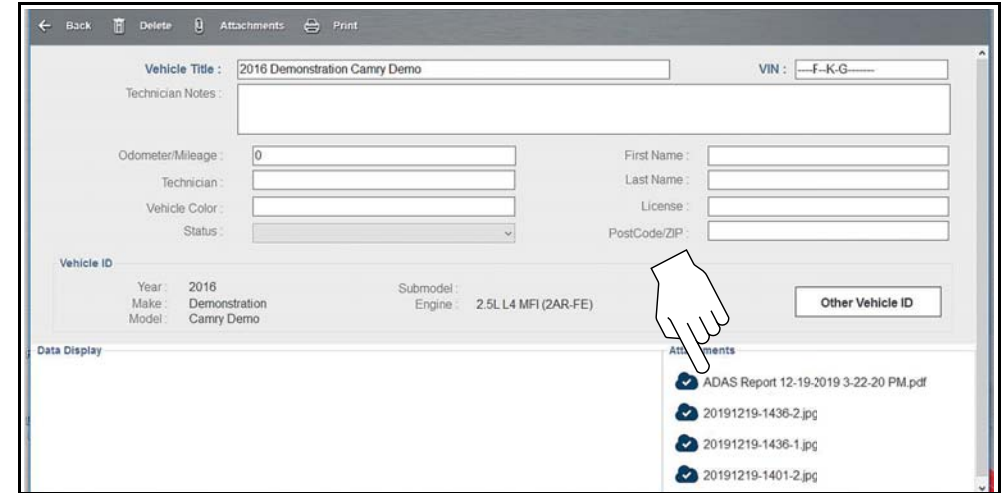

Figure 16-7
3. Select and open the ADAS Report PDF file from the attachments box (Figure 16-7).